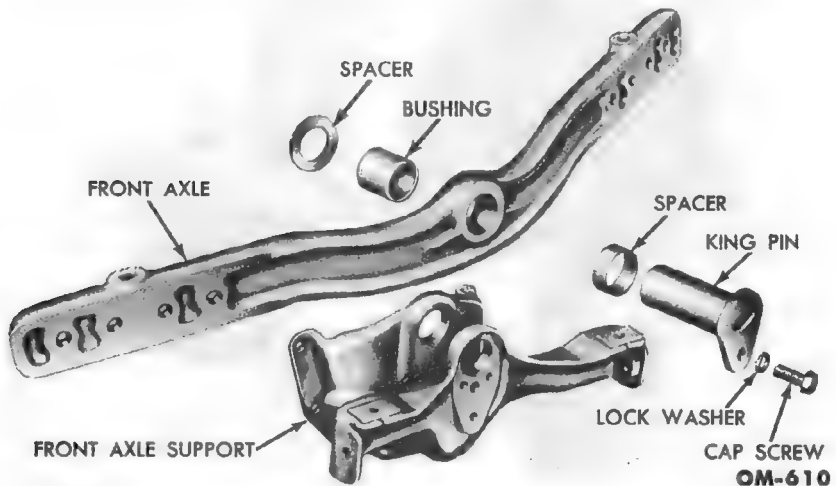

Fig. 36—Front Axle Support Assembly, Disassembled
Install the center section of the front axle in the front axle support as shown in fig. 36.
b. Installation. Secure the front axle support to the engine. Secure the hood to the front axle support with two cap screws. Install the king pin (fig. 36). Secure the radiator to the front axle support. Remove all supporting blocks.